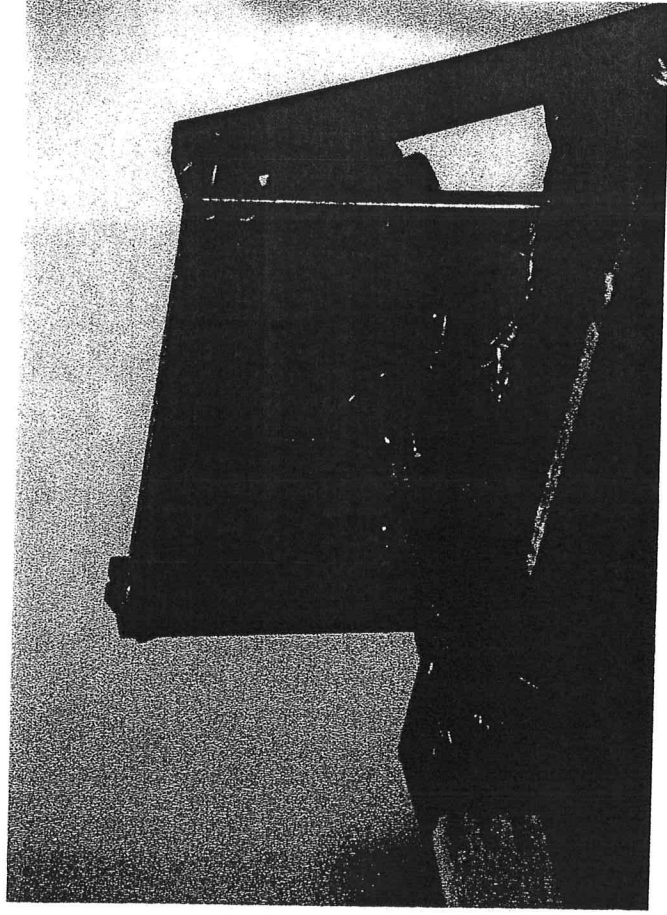

Fig. 2
4. Lower the table 5 turns. Cut an end groove in workpiece B. (fig. 2)